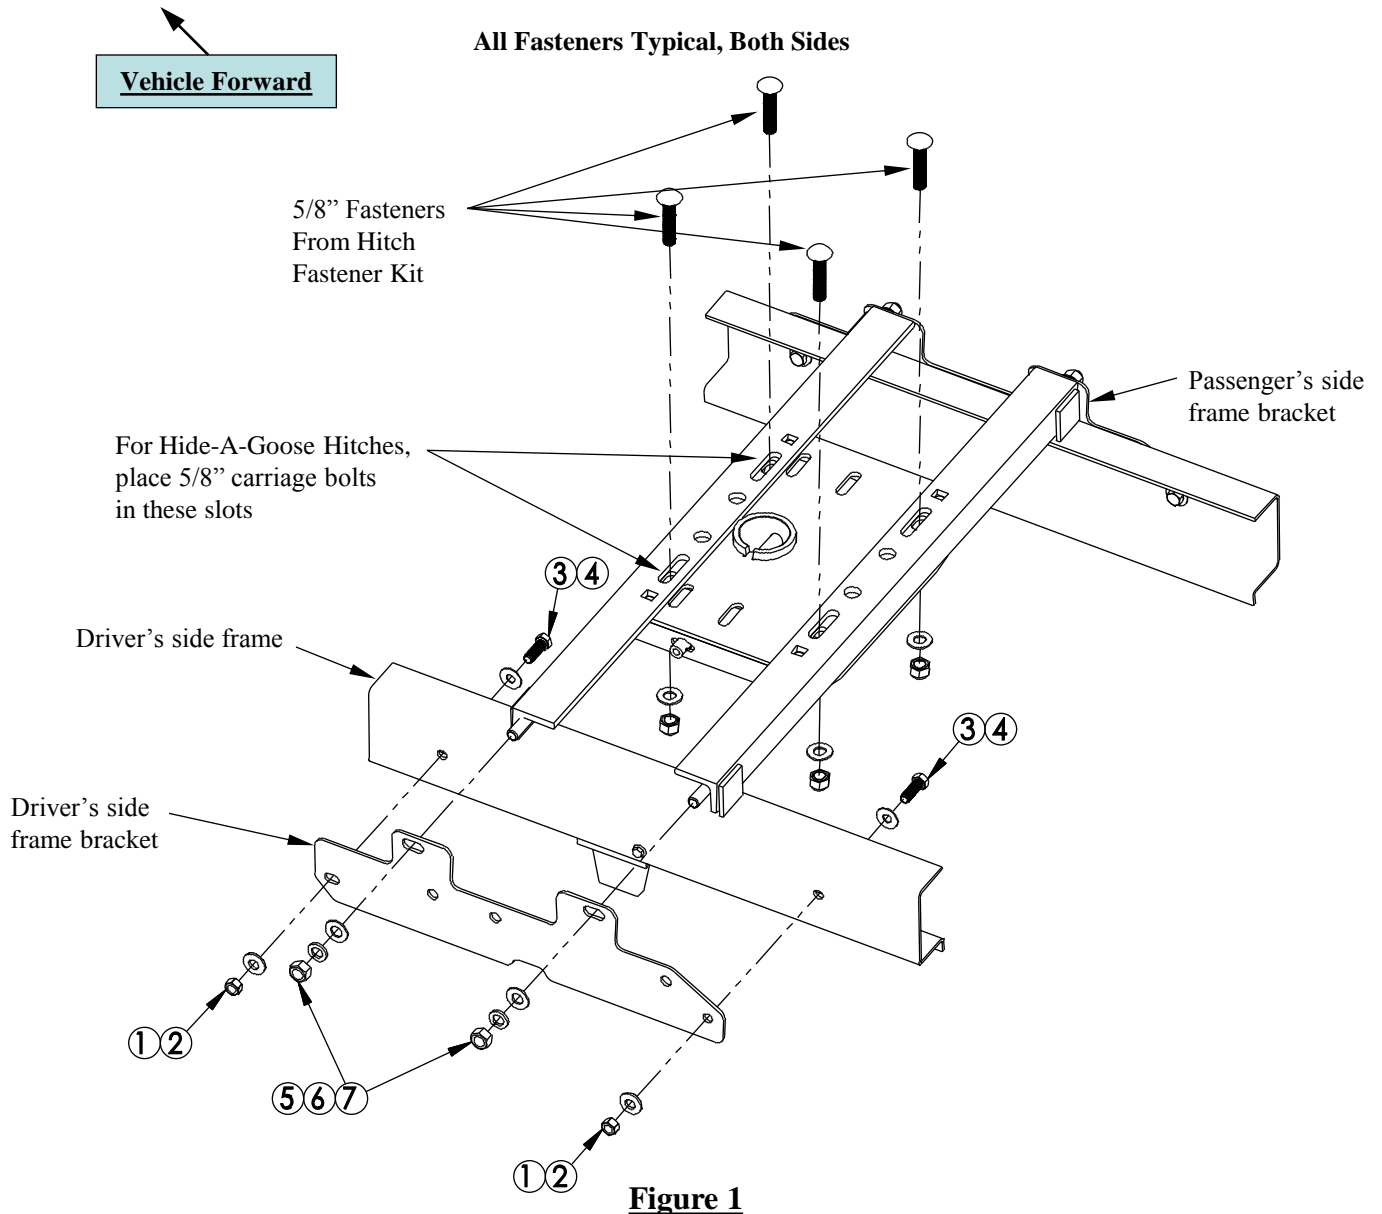

Figure 1
2. Place 5/8" GR8 carriage bolts from the Hide-A-Goose hitch fastener kit into the slots on the cross members from the top pointing towards the ground (see Figure 1).
6. Line up the mounting holes on the frame brackets with the studs on the ends of the cross members. Loosely attach frame brackets to rails with 5/8" hex nuts, lock washers and flat washers as shown in Figure 1.
7. Line up the mounting holes on the frame brackets with the holes in the side of the frame. Loosely attach frame brackets to the truck frame using the 1/2" hex bolts, flat washers, conical toothed washers, and hex nuts as shown in Figure 1.
9. Loosely install the 9460/9470 Hide-A-Goose hitch. Refer to the 9460/9470 instruction sheet for installation. **Note: The ball of the hitch should be closer to the forward rail than the rear rail, as shown in Figure 1.**